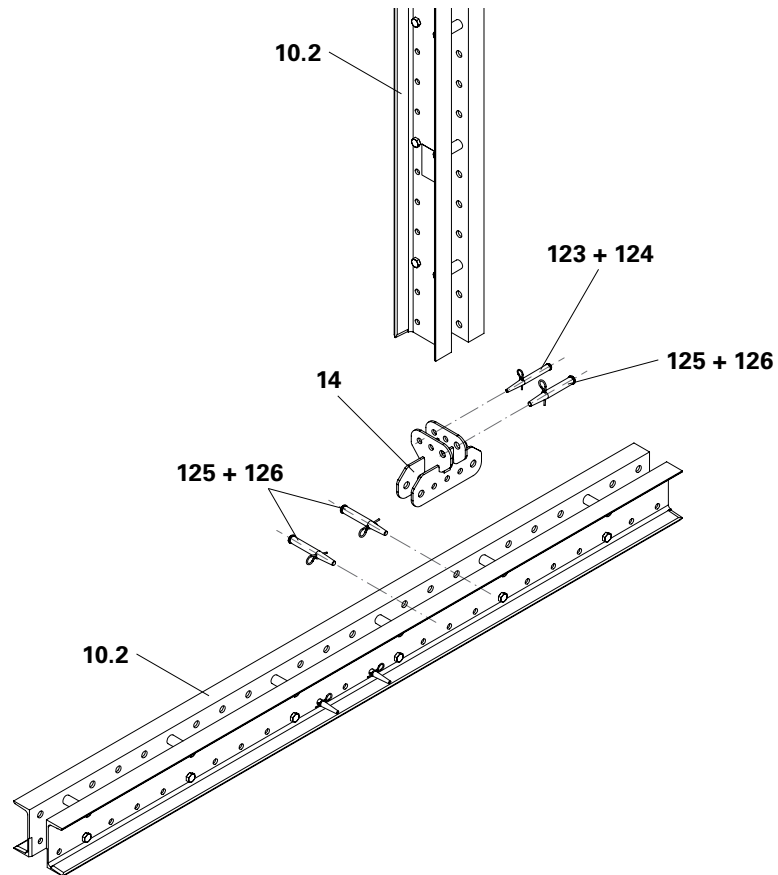

Fig. A5.02
1. Fix the Vertical Connector (14) to the Base Beam at the designated assembly position using two fitting pins 26x120 (125) and secure with cotter pins 5/1 (126).
2. Fix the Climbing rail RCS (10.2) to the Vertical Connector (14) using fitting pin 21x120 (123) and fitting pin 26x120 (125). Secure with cotter pin 4/1 (124) and cotter pin 5/1 (126). (Fig. A5.02)